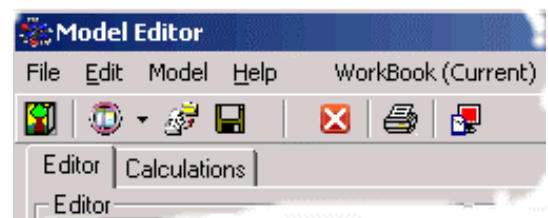

Figure ME-5: Menu and Button Bar
- 1) Create a new wafer or field model from the wafer or field model template by using the “Model/New/New Wafer” or “Model/New/New Field” selection from the control menu or by selecting the button of the same name from the button bar, shown in figure ME-5.